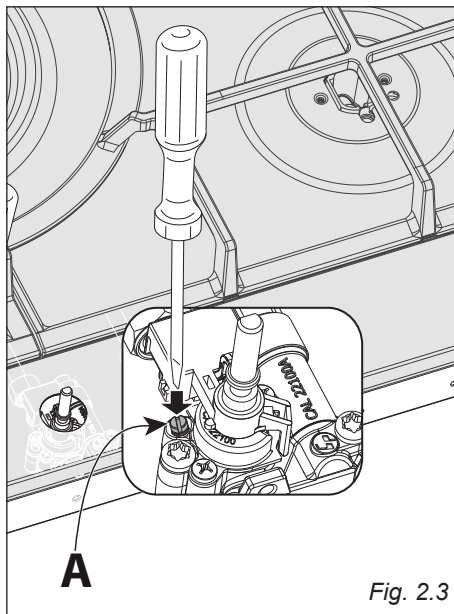

Fig. 2.3
- With a small flat screwdriver turn the screw "A" to the correct regulation (fig. 2.3).